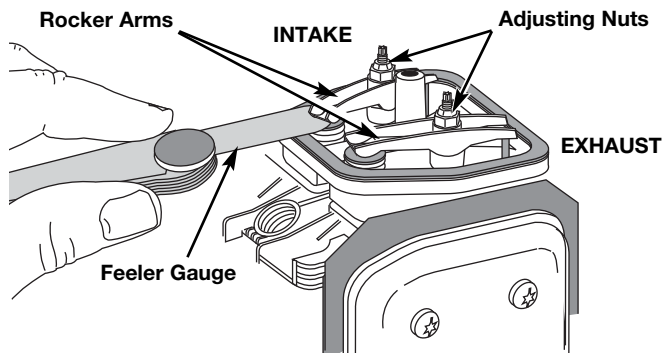

Fig. 36
- The piston is at the top of its travel. Look in the spark plug hole to view the piston (Fig. 36)
- Slide the feeler gauge between the rocker arm and the top of each valve stem. Measure the clearance between the valve stem and rocker arm (Fig. 36 & 37). Measure both the intake and exhaust valves.
The recommended clearance for both intake and exhaust is .003 – .006 in. (.076 – 0.152 mm). Use a standard automotive .005 in. (0.127 mm) feeler gauge. The feeler gauge should slide between the rocker arm and valve stem with a slight amount of resistance, without binding. See Figures 36 and 37.